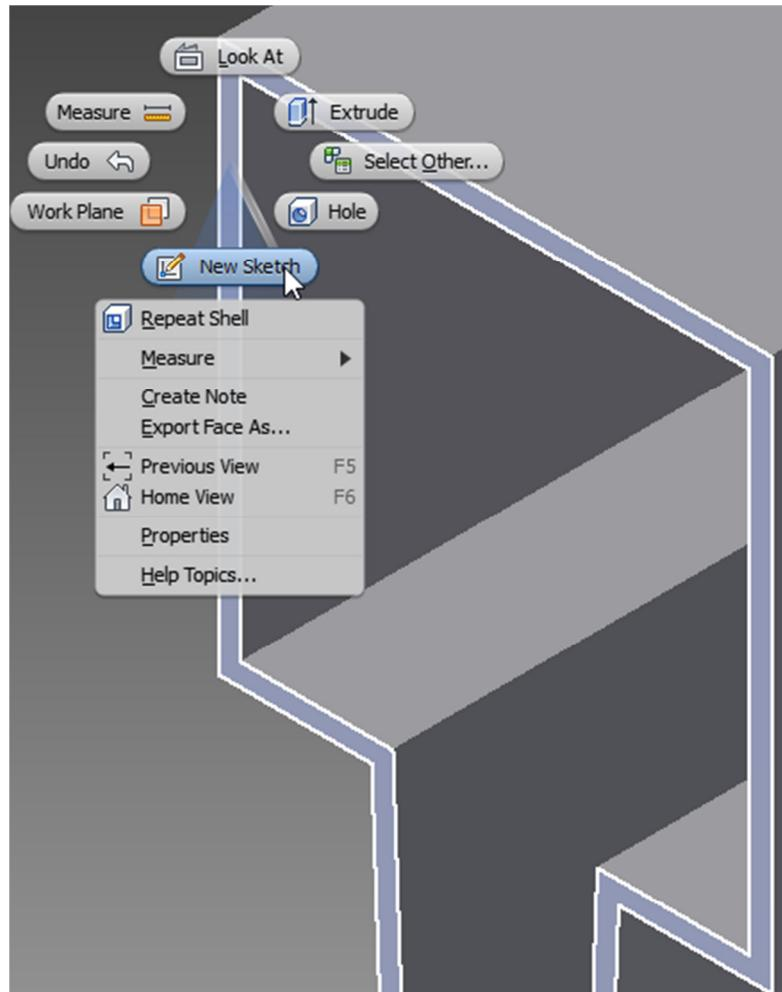

fig. 5
- 8) Now zoom up to one of the ends, right click the end face and select New Sketch – see fig. 5. Hit the Home key to zoom all if the part goes out of view. Now click Finish Sketch, right click on the sketch in the browser, and select Export Sketch As... and select dwg.
- 2) Right click on the face at one end and select New Sketch (like fig. 5). All of the edge geometry will already be copied up. Here I create something memorable and not necessarily fabricatable, just to evince the workflow. You or a fabricator can create whatever you like. So in my sketch I delete the outer four fin lines, I draw a circle centered on the end, and add two more circles on the sides and trim away any overlap. Again, you can create whatever you want here. When done, extrude the sketch back through the existing mullion using **Join** and **(To)** to create solid geometry all the way to the other end – see fig. 7.